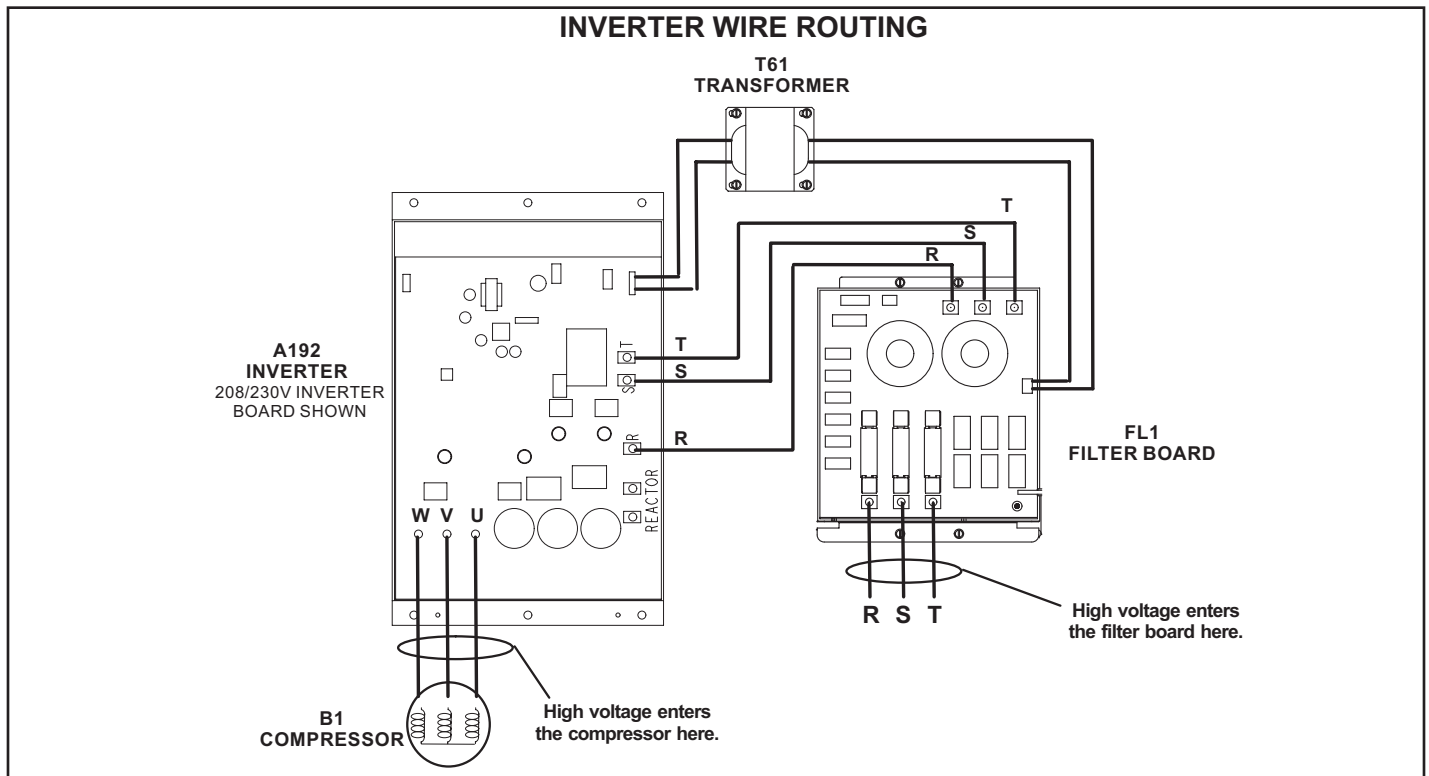

Figure 15
- A communication issue - check MODBUS communication wire for good connections between the Unit Controller and the inverter board. See Table 3 for inverter-related alarms. Inverter component wire routing is shown in Figure 15.